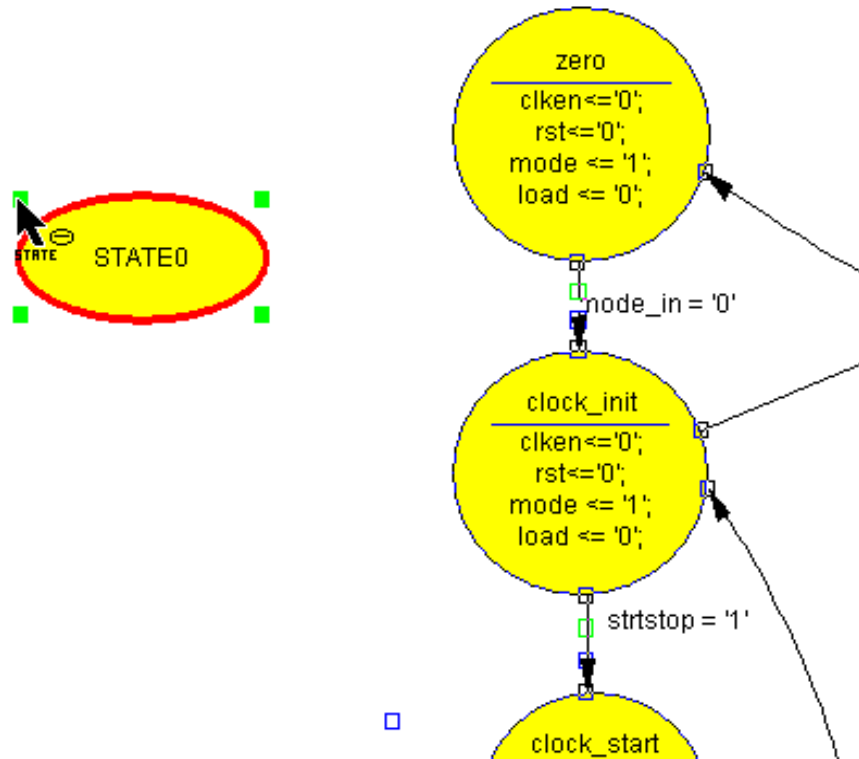

Figure 3-21: Adding the CLEAR State
2. Place the new state on the left-hand side of the diagram, as shown in Figure 3-21.